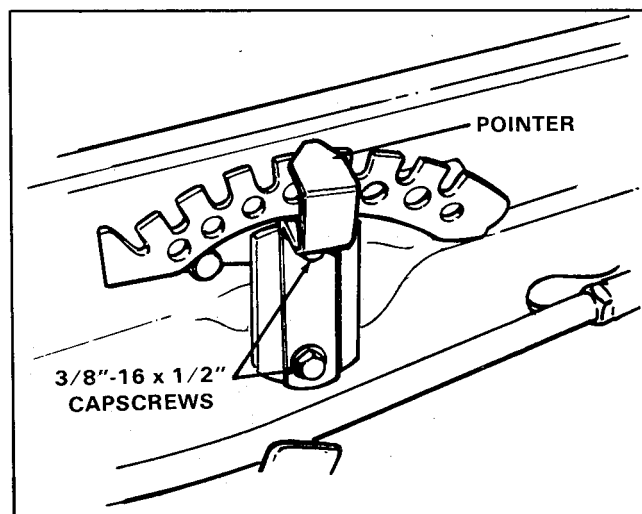

Figure 5.
14. Replace the lift lever with the pointer provided (see figure 5). Install pointer with two 3/8"-16 x 5/8" cap screws provided (use lockwashers from lift lever removal). During operation, the pointer allows you to determine lift movement and position and also acts as a stop.
17. Test operate power lift to be sure of wiring connections. Actuation of control switch by moving toggle lever toward operator should cause pointer in figure 5 to move toward rear of quadrant. If pointer moves toward front, reverse wire connections to actuator motor made in step 11. **Remove key after test.**